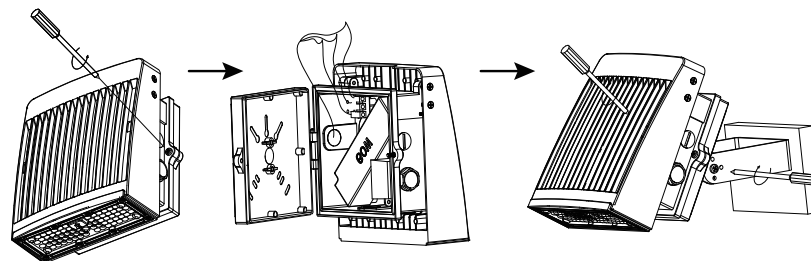

Figure 7
3. Loosen the screws on the back cover and connect wires with insulation measures. Then tighten the screws. Loosen screws on the bracket and adjust the wall pack into required angle. Tighten screws again. (See figure 7)